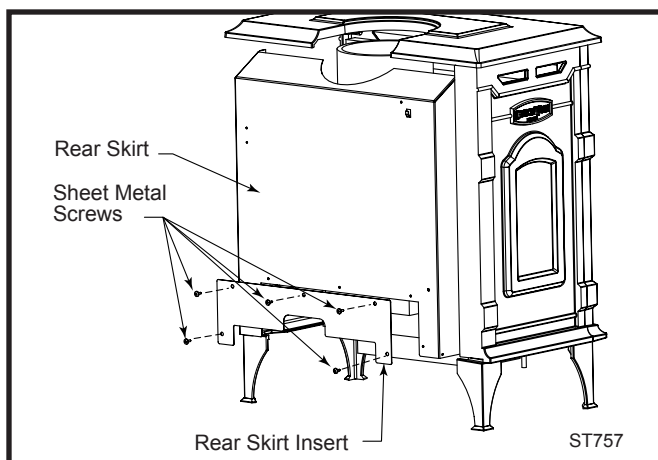
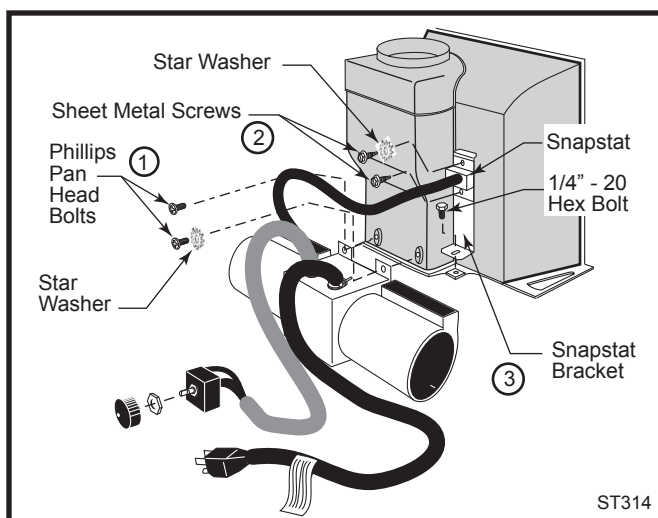

Fig. 13 Remove rear skirt insert.
Fig. 14 Attach the fan assembly and the snapstat.
2. Remove the rear skirt insert panel at the bottom of the Rear Skirt (Fig. 13) and fasten the blower assembly to the firebox back with the two Phillips pan-head bolts originally installed in the firebox back. ('1', Fig. 14)
3. Attach the snapstat assembly to the snapstat bracket with two sheet-metal screws. ('2', Fig. 14) Attach the snapstat bracket to the stove with a hex-head bolt passing through the bracket and into the stove base. ('3', Fig. 14)